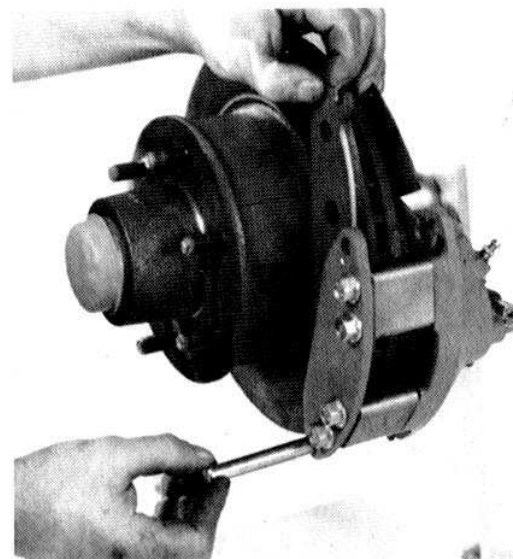

Fig. 27
2. Pull forward on caliper and then install the other lining between disc and (outside) secondary plate of caliper housing. (Fig. 27)
3. While holding linings in place, install the two clevis pins, engaging with slots on end of linings, (pin heads on the outside.) (Fig. 27)